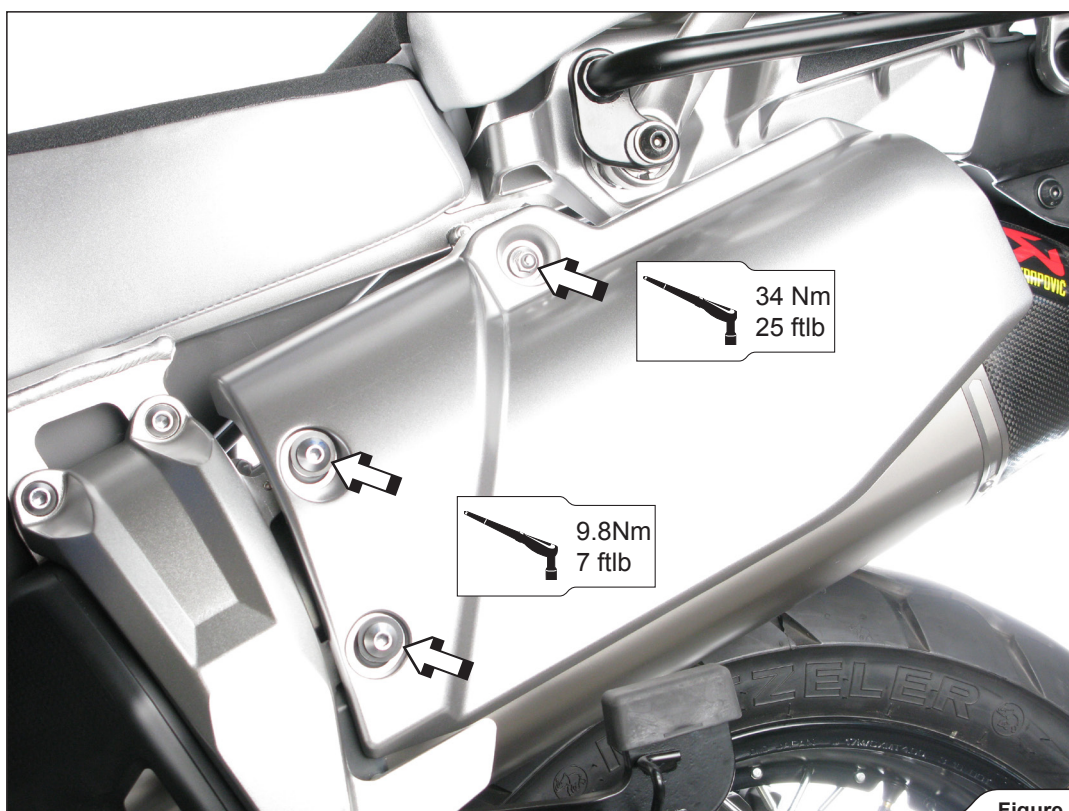

Figure 4
1. Correctly install Akrapovič metal clamp onto the muffler link pipe as shown (**Figure 4**).